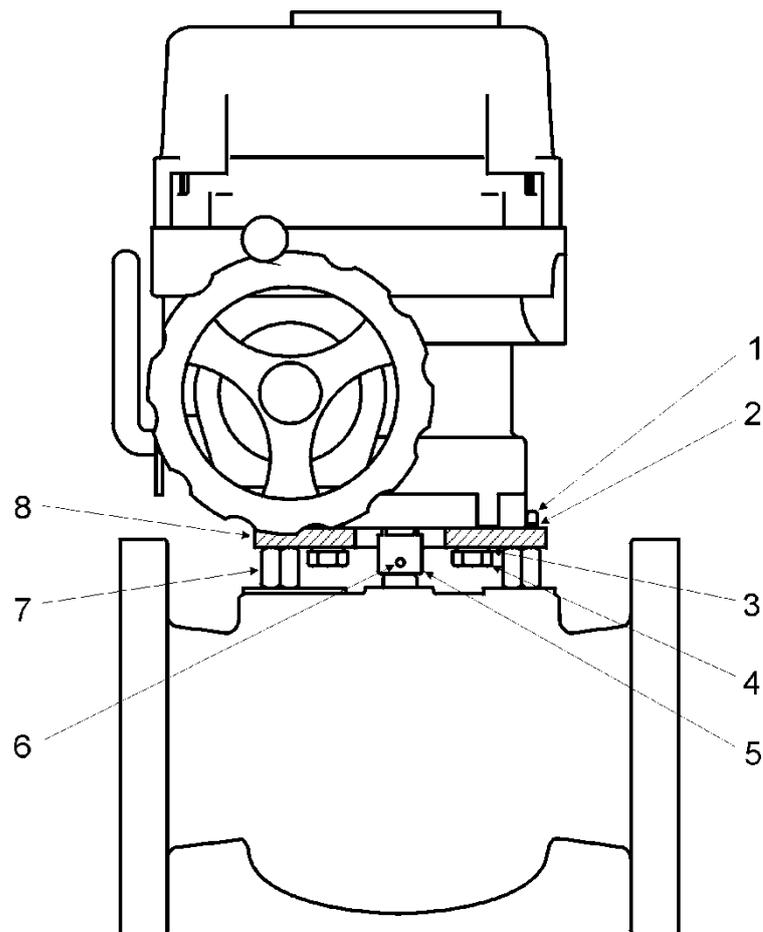

Fig 12 Actuator mounting
The size of bolts and associated torque setting is dependent on the size of the valve. Throughout the removal and installation procedure, refer to Table 3 and Fig 12 (page 37) for the relevant bolt sizes and torque settings:
| Valve Size | Mounting Plate to Actuator Fig 12 (4) | | Mounting Plate to Valve Body Fig 12 (1) | |
- 5 Remove the four bolts and spring washers (Fig 12 items 1 and 2) securing the actuator mounting plate to the valve.
- 3 Mount the actuator, complete with mounting plate onto the valve body and secure with the four bolts and washers (Fig 12 items 1 and 2). Tighten the bolts to the relevant torque setting detailed in Table 3 page 36.